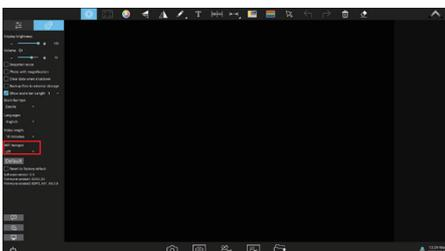

Figure 1
- (1) Click the "⚙️" setting icon in the upper left corner of KoPa WiFi Lab AO;
- (2) Click the icon "⚙️";
- (3) Click the icon "🌐" at the bottom left, Open WLAN (as in Figure 1 and 2);